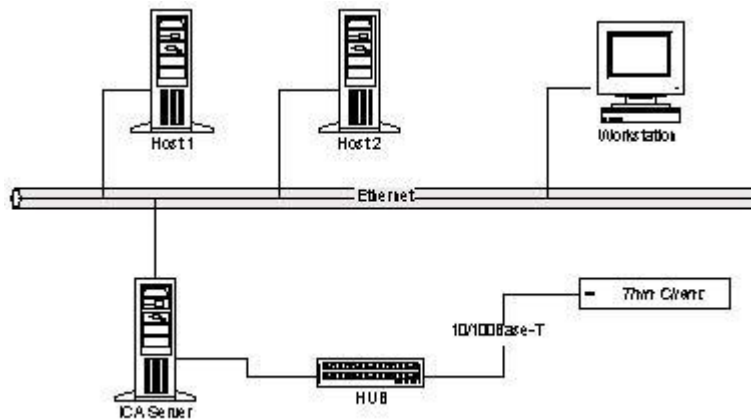

Figure 3: LAN Connection through TCP/IP
2. Connect the other end to a LAN hub as shown in Figure 3.